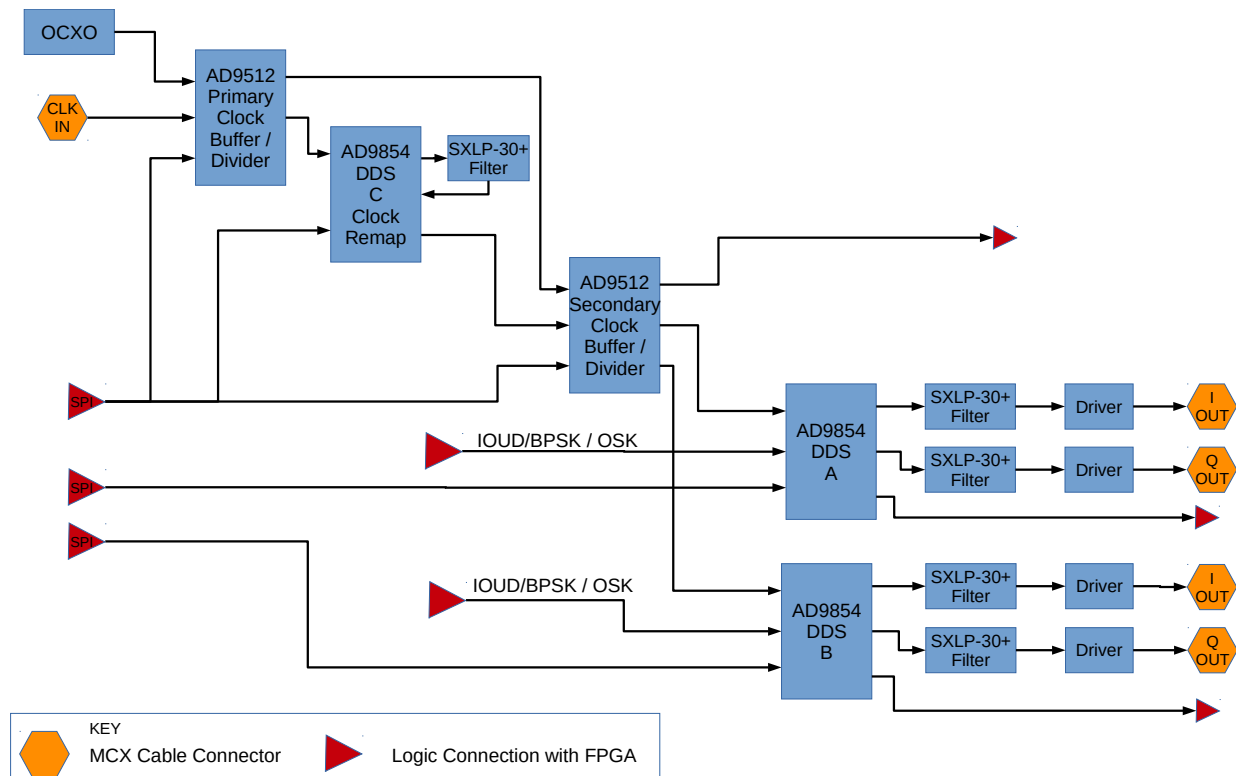

Figure 2. Schematics of the Triple DDS Radar Controller.
3. a two-channel quadrature (I, Q) direct digital synthesizer (DDS-A/B) providing frequency-modulated (chirped) signals. Features: internal frequency 300MHz after base clock multiplication, 48-bit phase register yielding 1 μ Hz tunability, 12-bit digital-to-analog converter, 80 dB SFDR, 27MHz analog low-pass filters resulting in an operating frequency extending to 27MHz. Both the clock-remapping DDS-C and the chirping DDS-A/B are based on Analog Devices' model AD9854 CMOS DDS, integrated by D-Tacq Solutions (Scotland/UK), model RAD-CELLF. The technical specifications of this triple DDS radar controller are found in appendix 2 and its schematics are shown in Figure 2 and 3.
5. a solid state Class AB MOSFET RF power amplifier (PA) operated in continuous mode (CW). Features: input signal level -10dBm, Maximum output power is 50 W (+0.5dB) for frequencies 8 MHz and below and 30 W (+0.5dB) for frequencies 12 MHz and above. Stable operating range from 0.5 to 150 MHz. Manufacturer: Tomco Technologies (Australia), Model BTM00250-AlphaSA. The technical specifications are found in appendix 3.